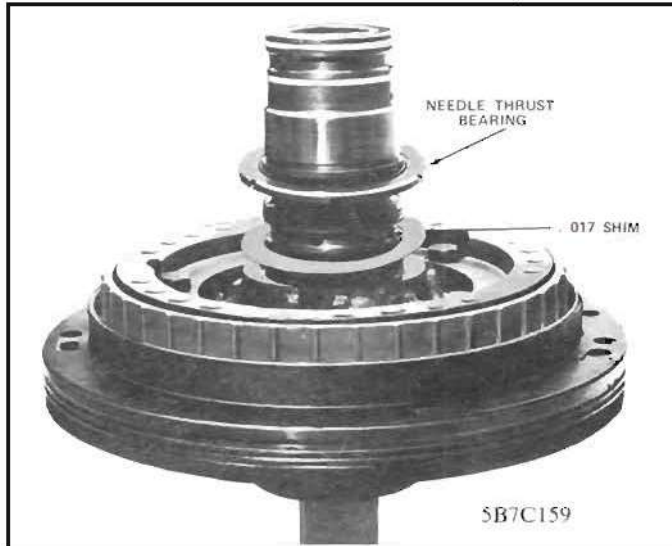

Figure 95 Pump Shim and Needle Bearing
1. Install original amount of .017 shims and needle thrust bearing lip side face down on pump cover hub. Before installation apply petrolatum to both sides of shim and bearing. *See Figure 95.*
Push on end of output shaft to move shaft forward the reading obtained should be between .010 and .044. If the reading is incorrect remove pump assembly and install enough .017 shims to obtain correct reading. *See Figure 95.*